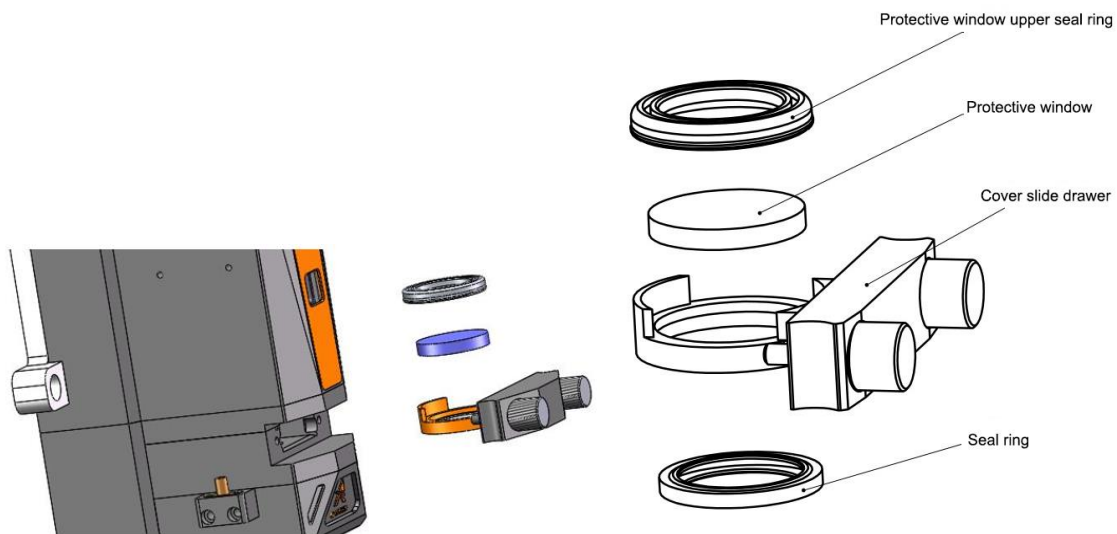

Figure 14. Protective windows of focus lens.
- (1) Loose the two screws showed in figure 14, and carefully take out of the lens with cover slide drawer;
- (2) Take out of the **protective window upper seal ring** by tools properly and take out of the lens using your fingers after putting on fingerstall;
- (3) Cleaning the lens, cover slide drawer and **protective window upper seal ring**, if the seal ring has been damaged, please change with a new one;
- (4) Put the cleaned lens back into the cover slide drawer; (No difference in pros and cons)
- (5) Put the **protective window upper seal ring** back to the cover slide drawer;
- (6) Put the protective windows unit back into the cutting head and then tighten the two screws.